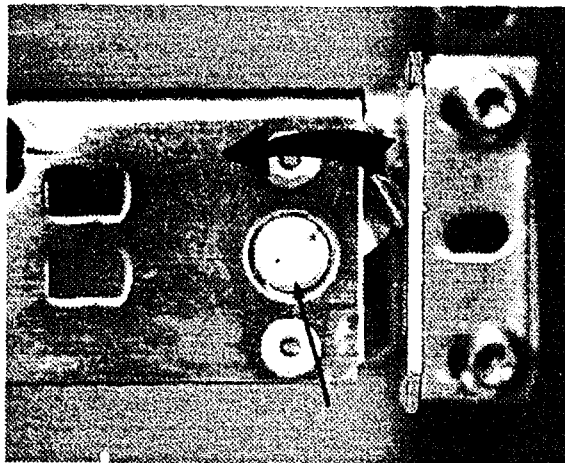

Figure 8-7. Unlocking the Slide Assembly (Right Side)
2. Unlock the slide from the rack by rotating the slotted screws on each side of the handle **AWAY** from the rack vertical members (rotate the left screw clockwise; rotate the right screw counterclockwise). Figure 8-7 shows the right-side screw and how it is rotated to release the latch.